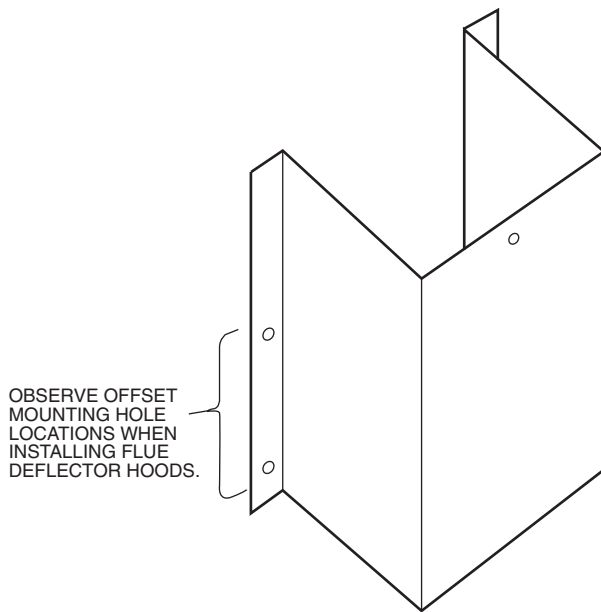

Fig. 66 — Mounting Deflector Hoods
4. Install flue deflector hood assembly over each flue outlet hood. See Fig. 66. Observe the offset mounting hole locations in the deflector hood flanges when attaching hood to panel. Holes in the mounting flange must be at the bottom when attached.